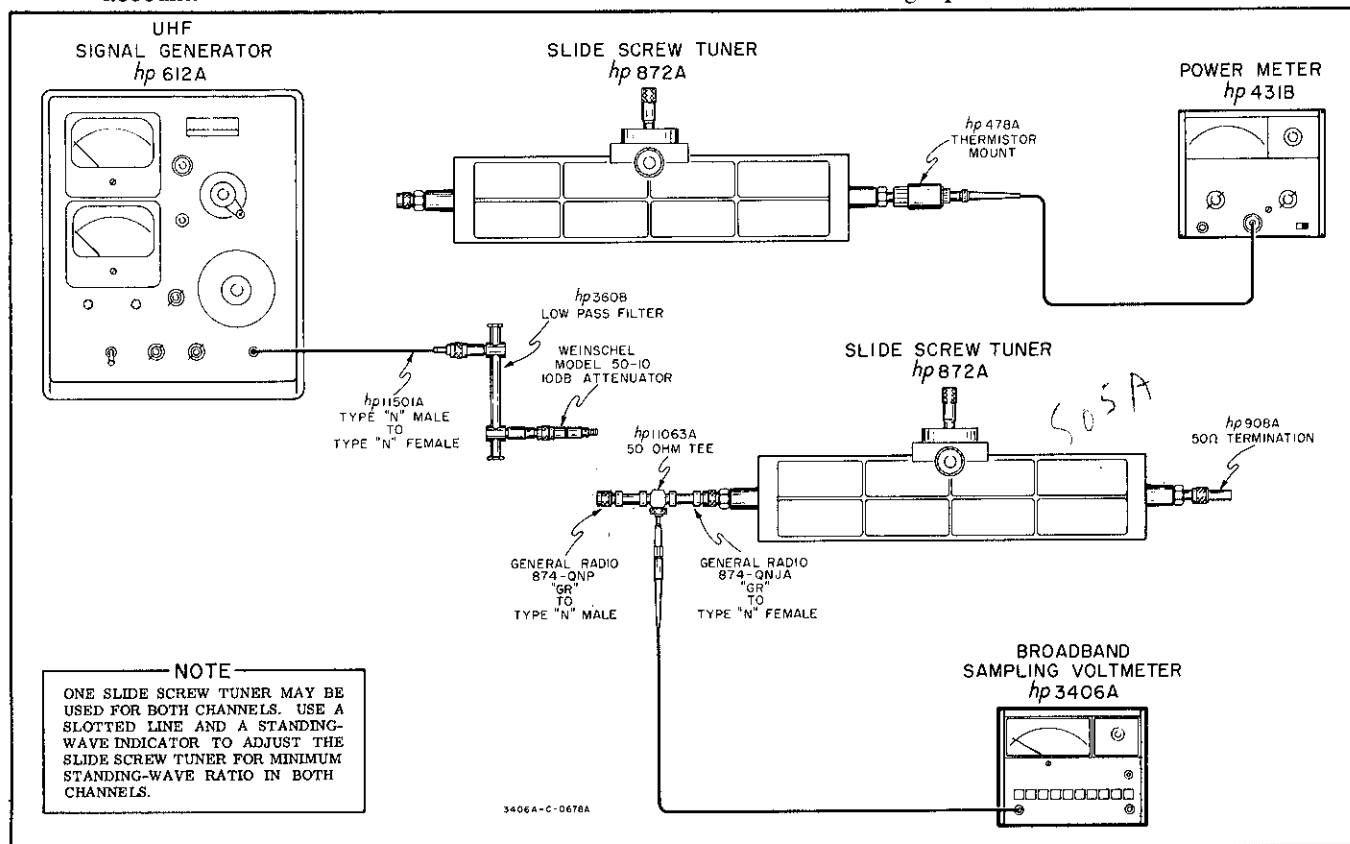

Figure 5-3. 500 MHz to 1 GHz Frequency Response Test Setup
5-12. The 500 MHz to 1 GHz frequency response test setup is illustrated in Figure 5-3. The following equipment is required for this check:
- a. Connect Model 3406A as illustrated in Figure 5-3.
- f. Reconnect the UHF oscillator to 3406A channel as illustrated in Figure 5-3, and readjust the slide screw tuner to setting recorded in step c.
5-29. The test setup illustrated in Figure 5-3 is required for the frequency response adjustment. The following equipment is required for this adjustment: